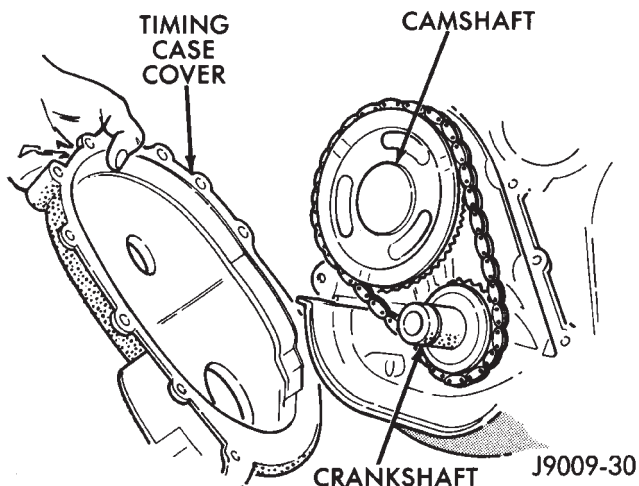

Fig. 49 Timing Case Cover
(13) Install the timing case cover with a replacement oil seal (Fig. 49). Refer to Timing Case Cover Installation.
(14) Install the vibration damper.